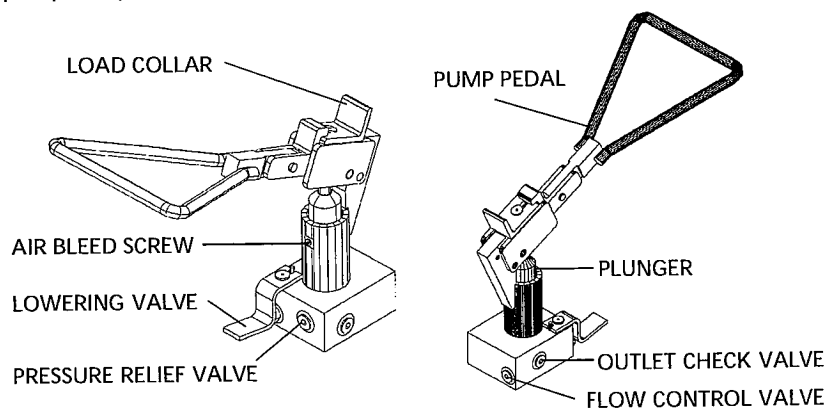

Figure 3 - Foot Pump Operation
2. Locate the "air bleed screw" (see figure 3) and loosen approximately 1/2 turn counterclockwise. As soon as you have loosened the screw, slowly depress the foot pedal. This will force the air out of the pump chamber. Before you let the pump pedal return to the "up" or "home" position, tighten the air bleed screw. This will prevent air from reentering the pump chamber. Repeat the above procedure until the pump chamber is completely filled with oil and a "spongy" feel is no longer present. If the air bleeding procedure has been successful, the feel of the pump pedal will be firm and the complete stroke of the pump will produce fluid flow.